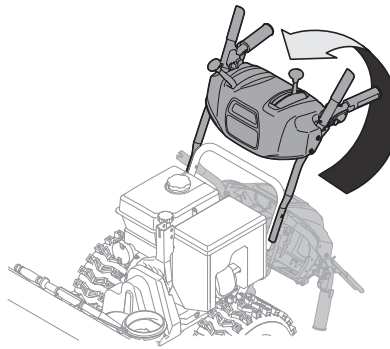

Figure 2-4
- Pivot handle upward and align the lower handle. See Figure 2-4. Remove and discard any rubber bands, if present. They are for packaging purposes only.